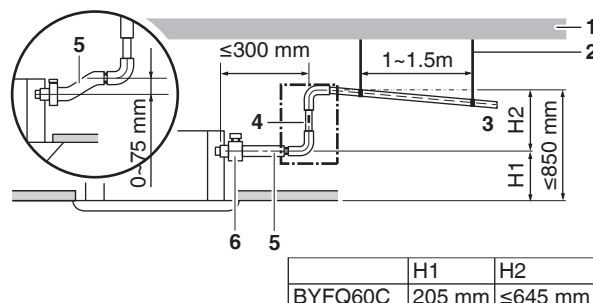

Fig. 19
• How to perform piping (See Fig. 19)